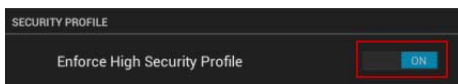

FIG. 99 SECURITY PROFILE setting
- Press the **Enforce High Security Mode** option to toggle it from **ON** to **OFF** (FIG. 99):